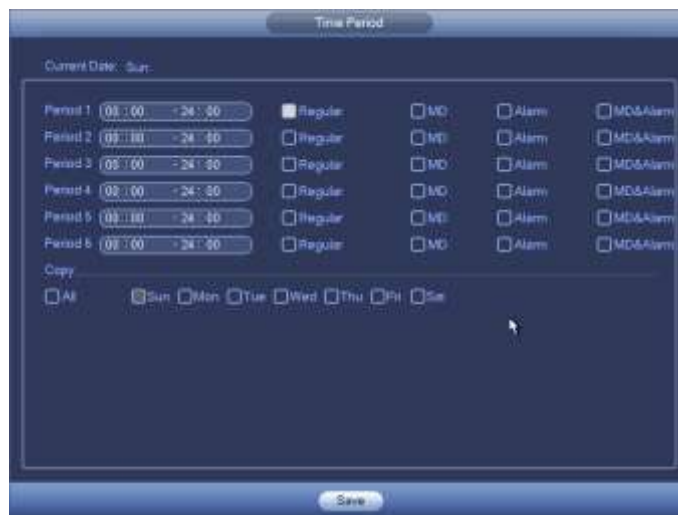

Figure 4-64
- Period setup: Click button  after one date or a holiday, you can see an interface shown as in Figure 4-64. There are four record types: regular, motion detection (MD), Alarm, MD & alarm.